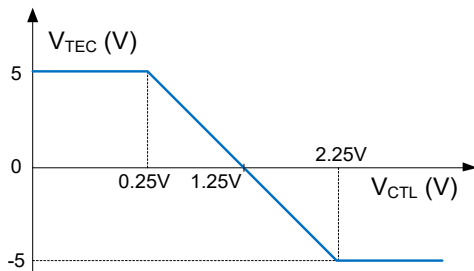

Figure 4. VTEC Linear Relationship with VCTL
A thermoelectric cooler is a heat pump that transfers the heat between its two surfaces depending on its voltage polarity. The TEC terminals are placed between the linear regulator (LDO) output (VOL) and the PWM regulator (synchronous Buck) output. The Buck output voltage is sensed by VOS pin. The Buck external inductor is placed between the switching node (SW) and the TEC terminal that is connected to VOS. So, the TEC bipolar voltage is VTEC = VVOL - VVOS. Both LDO and Buck outputs can sink or source current up to 1.5A. VTEC is controlled to have a linear relation with the VCTL input but is limited to the lower of VIN and VLIM as shown in Figure 4.